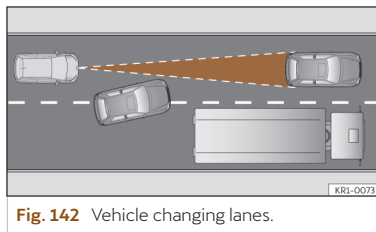

Fig. 142 Vehicle changing lanes.
- Vehicles that move into your lane, a short distance from your vehicle >>> **Fig. 142**.